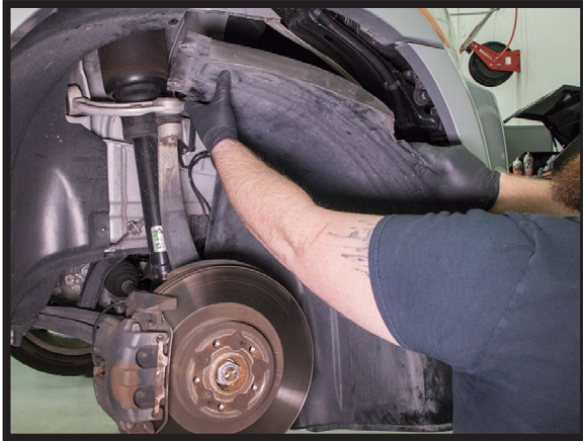

FIGURE 2
4. REMOVE THE WHEEL WELL LINER TO EXPOSE THE VEHICLE'S AIR SUSPENSION COMPRESSOR. (FIGURES 2, 3)